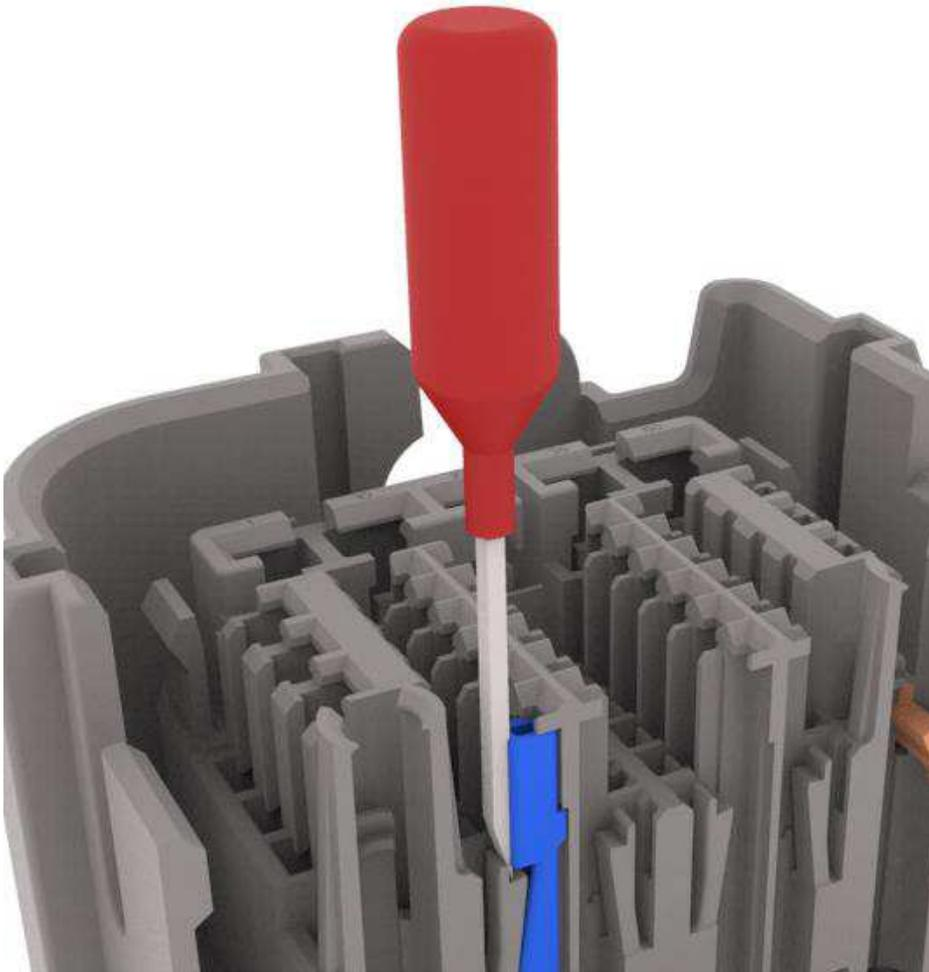

Figure 36
2. Insert the Generation Y service terminal extraction tool or a small screwdriver into the exposed cavity. See Figure 36.
2. Insert the Molex 150 service terminal extraction tool or a small screwdriver into the exposed cavity. Refer to Figure 36 Generation Y seal plugs extraction.